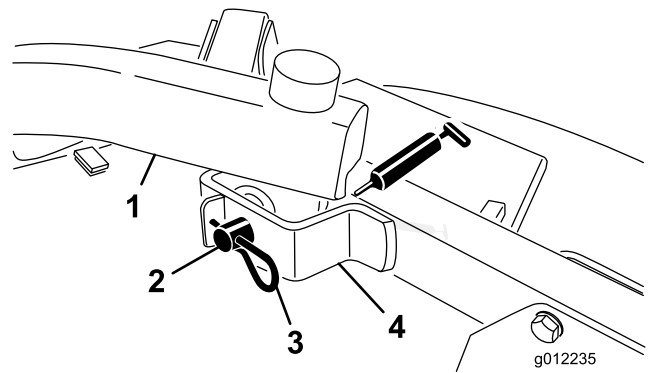

Figure 20
- Lift arm pivots, front (2) (Figure 20)